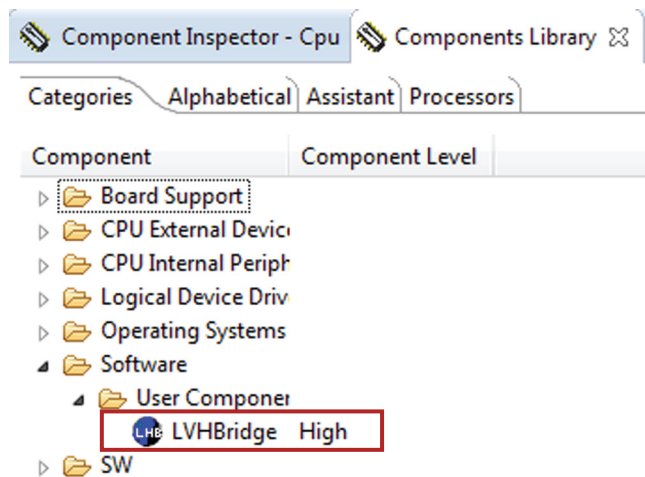

Figure 21. LVHBridge component location after CodeWarrior import
4. If the import is successful, the LVHBridge component appears in Components Library -> SW -> User Component (see Figure 21). Note that the component **ChannelAllocator** is not visible, because it is not designed to be users accessible.